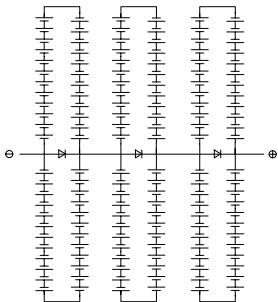

Figure 7: Electrical circuitry of cells and bypass diodes
Yingli Solar GG modules are provided with two (2) stranded, sunlight resistant output cables that are terminated with PV connectors ready for most installations. The positive (+) terminal has a female connector while the negative (-) terminal has a male connector. The module wiring is intended for series connections [i.e. female (+) to male (-) interconnections, see Figure 7], but can also be used to connect suitable third-party electrical devices that may have alternative wiring configurations so long as the manufacturer’s instructions are followed.
Bypass diodes divert current from the cell strings in the event of partial shading. See Figure 7 for a diagram showing how the cell strings are electrically connected with the diodes. In the event of a known or suspected diode failure, installers or maintenance providers should contact the company which the GG modules were purchased from. Never attempts to open the junction box of a Yingli Solar GG module yourself.